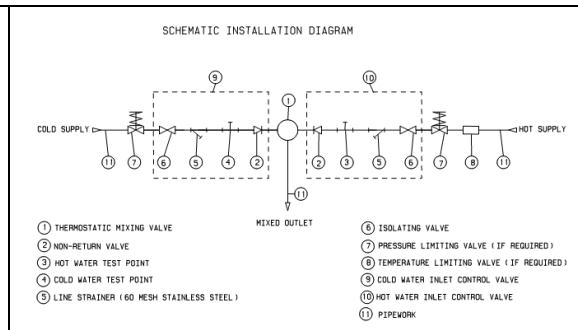

Figure 3 Installation Schematic
- AS3500 requires that all thermostatic mixing valves are installed with isolating valves, line strainers, and non-return valves on the hot and cold supply lines. The supplied inlet fittings ensure this requirement is met. If the valve is to be used without the included inlet fittings, ensure that the relevant devices are installed as specified by the standard. Figure 3 shows the position of each device.